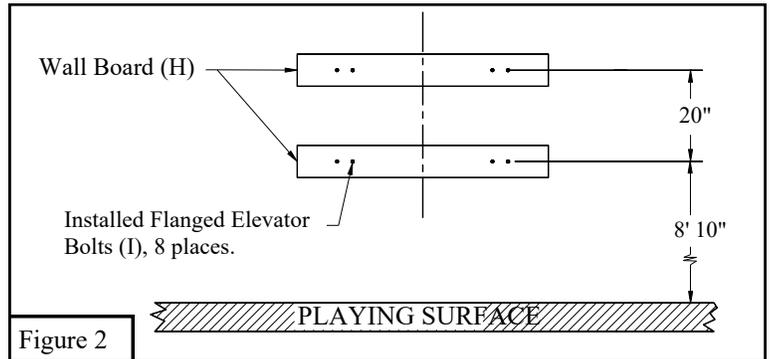

Figure 2
2. Locate the proper location on the wall to mount the *Wall Boards* (H). Take into consideration that the distance from the wall to the face of the backboard is 36" at 10' and 40" at 8' rim height. See Figures 2 and 6.
3. Attach bottom *Wall Board* (H) exactly 8' 10" from playing surface to centerline of *Flange Elevator Bolts* (I). Make sure *Wall Board* (H) is level and centered on your playing surface. Attach top *Wall Board* (H) with exactly 20" between *Flange Elevator Bolts* (I). Use anchors (provided by installer) that are best suited for the type of wall being attached to. Attach each board in at least 3 places. See Figure 2.